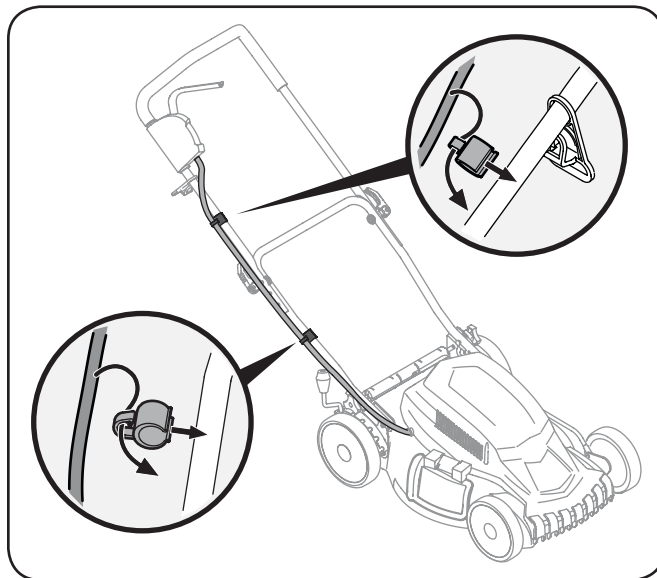

Figure 3-6
- Snap one cord guide onto the lower handle. See Fig. 3-6.
- Snap the other cord guide onto the upper handle below the cord retainer. See Fig. 3-6.